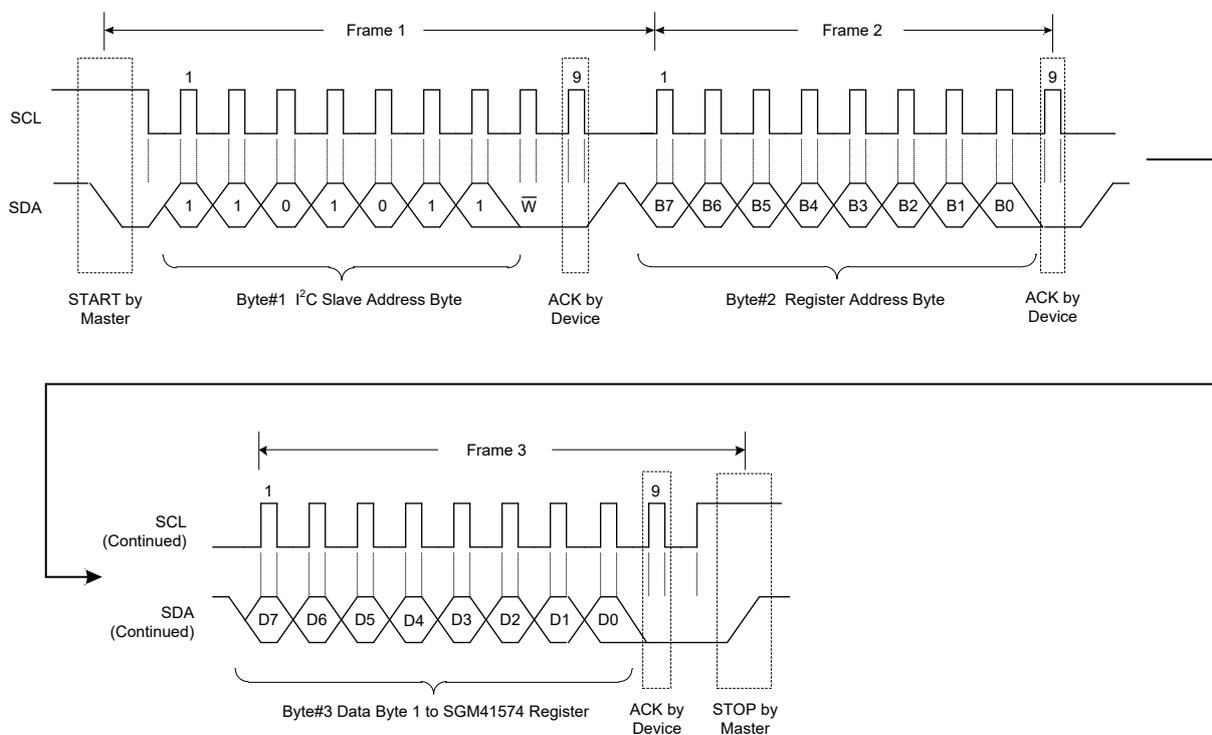

Figure 24. A Single Write Transaction
**WRITE:** If the master wants to write in the register, the third byte can be written directly as shown in Figure 24 for a single write data transfer. After receiving the ACK, the master may issue a STOP condition to end the transaction or send the next register data, which will be written to the next address in a slave as multi-write. A STOP is needed after sending the last data.